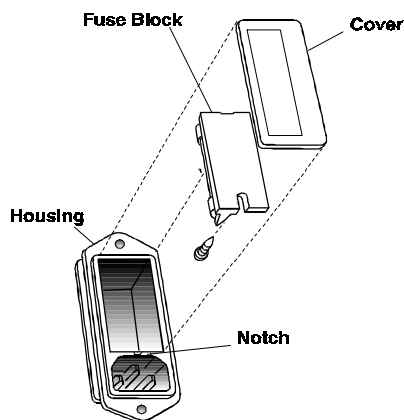

Figure 5-2: Removing Fuse Block from Housing
1. Place small screwdriver in notch, and pry cover off, as shown in Figure 5-2.
4. Reassemble Housing as shown in Figure 5-2.